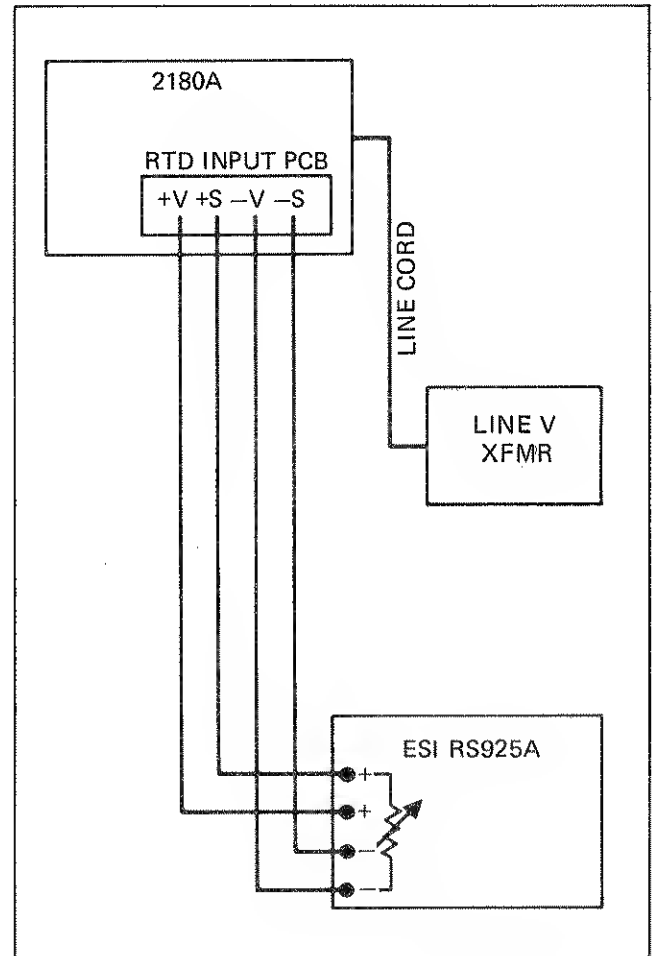

Figure 4-2. Performance Test Connections
3. Connect the equipment as shown in Figure 4-2. Refer to Table 4-2 for Recommended Test Equipment.